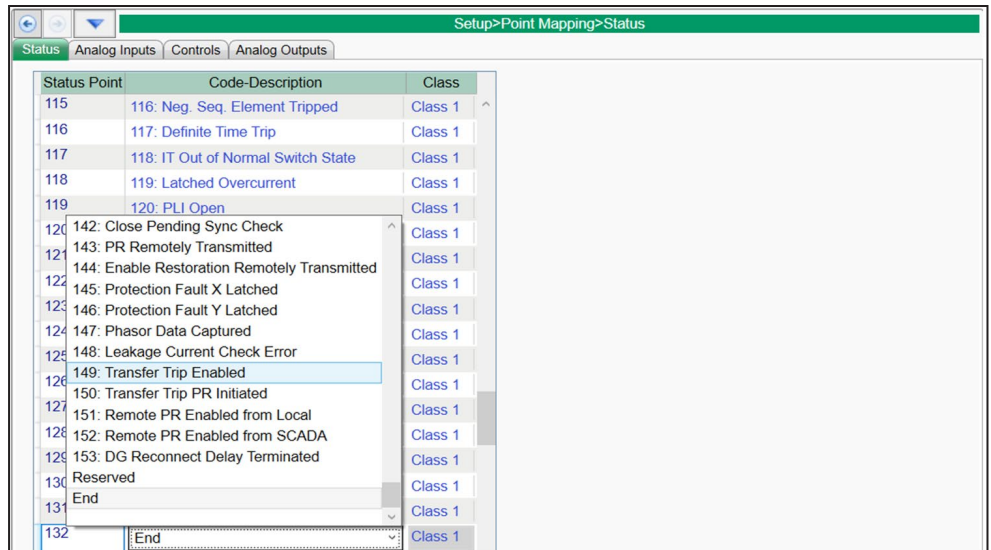

Figure 8. Mapping the Transfer Trip Enabled DNP status point.
STEP 6. Go to the *Setup>Point Mapping>Status* screen and configure the **Transfer Trip Enabled** DNP status point. This point is active when the **Remote Transfer Trip** setting is enabled. See Figure 8.
These are the steps the IntelliTeam SG system takes to return the circuit back to the **Normal** state and automatically bring the distributed generation back online. See Figure 8 on page 13.